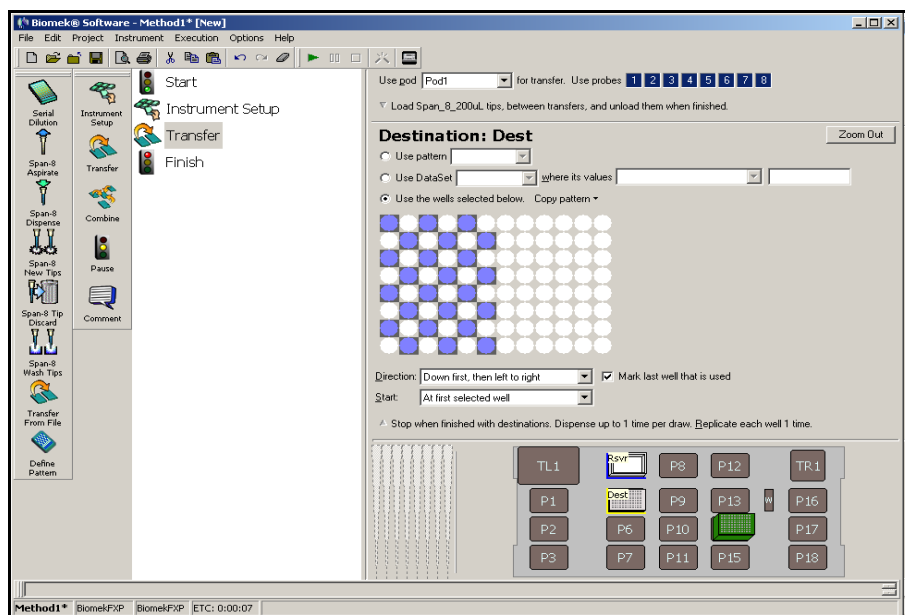

Figure 5-11. Destination labware zoomed in
3. Since all of the wells are selected by default, select the first well of the first column by clicking on the well. Now the only well that is selected is that first well that you just clicked; all the other wells are deselected. Then, select every other well of the first six columns by holding down Ctrl key and clicking the wells. Your pattern should look like Figure 5-11. You have just configured which wells will be filled with water from the source reservoir Rsvr.